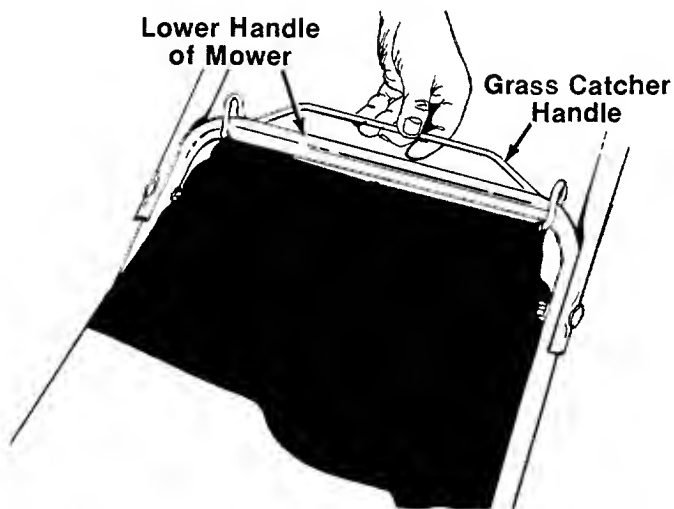

FIGURE 17.
3. Hook the handle on the rear of the grass catcher over the lower handle of the mower. See figure 17.